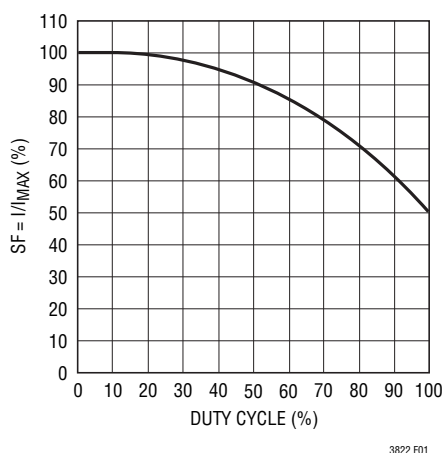

Figure 1. Maximum Peak Current vs Duty Cycle
However, once the controller's duty cycle exceeds 20%, slope compensation begins and effectively reduces the peak sense voltage by a scale factor (SF) given by the curve in Figure 1.
where SF is a scale factor whose value is obtained from the curve in Figure 1.
From Figure 1,  $SF = 96\%$ .